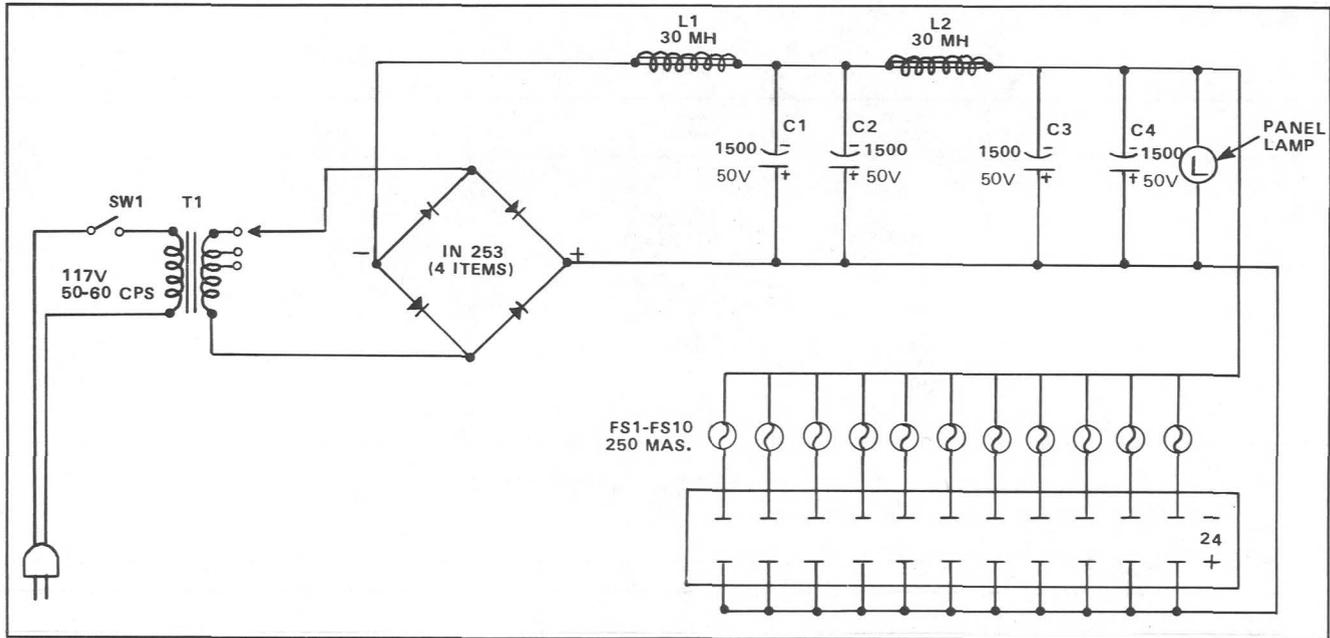

Fig. 3 — 529A Power Supply
2.03 Total Power consumption of an amplifier is 1/2 of 1 watt. Two power supplies are available. Type (533A) provides power for a single repeater. Two (533A) power supplies and two repeaters can be mounted in a standard 105 type apparatus box. A larger power supply (529A, Fig. 3) is available and is rack mounted. This larger type is capable of supplying power to 100 transistorized amplifiers.
3.08 Two power supply units are available. The 529A is capable of energizing up to a hundred amplifiers, while the 533A powers a single amplifier only. The 529A power supply delivers a total DC output of 2.5 amps. via ten busses, each fused at 250 ma. Figure 3 shows the circuit arrangement where the secondary of the power transformer is tapped to adjust the output voltage to 24 volts for any number of amplifiers. The rectifier is a bridge type and uses silicon rectifiers. A two-stage filter reduces the ripple to a level of a few millivolts. A distribution block is located on the rear of the panel. The front panel includes a power switch, pilot lamp, ten low voltage fuseholders, and a fuse designation strip. A flexible cord is provided to connect the unit to the 117 volt AC supply.